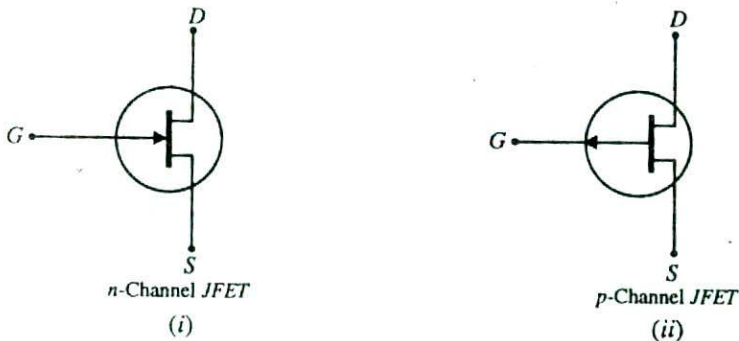

Fig. 21.4
Fig. 21.4 shows the schematic symbol of $JFET$. The vertical line in the symbol may be thought as
channel and source (S) and drain (D) connected to this line. If the channel is n -type, the arrow on the gate points towards the channel as shown in Fig. 21.4 (i). However, for p -type channel, the arrow on the gate points from channel to gate [See Fig. 21.4 (ii)].